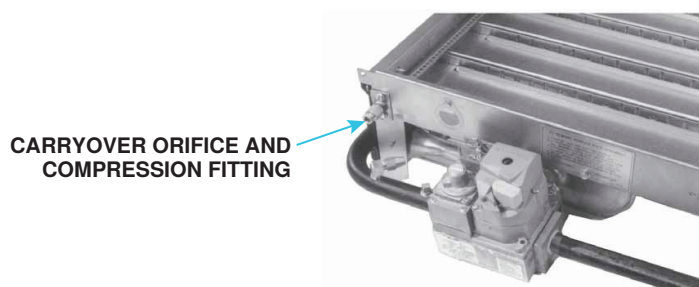

Figure 60. Carryover Orifice and Compression Fitting Installation
- a. Install carryover orifice and compression fitting as shown in **Figure 60**. If carryover orifice fit in carryover lighter tube is tight, lightly tap orifice into position.